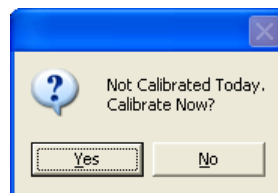
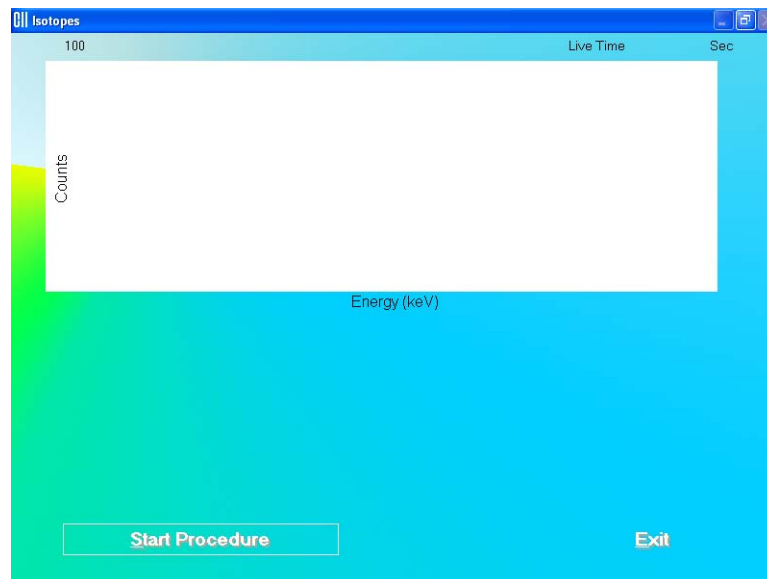

Figure 6-9
Figure 6-10
6. Click the **Next** button or press *Alt+N*. The screen appears as shown in Figure 6-10.
**Note:** If calibration has not been performed for the current day, you will be prompted with the screen as shown in Figure 6-9. If calibration is performed now, the program will return to Figure 6-10 after calibration is complete.
Click the **Yes** button or press the **Y** key to end the procedure. The screen appears as shown in Figure 6-10. Click the **Start Procedure** button to start again or click the **Exit** button to quit.